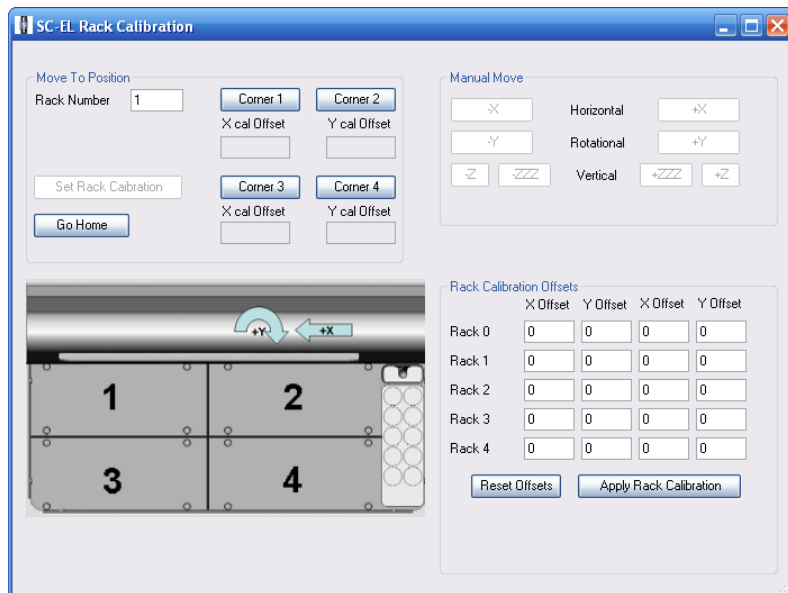
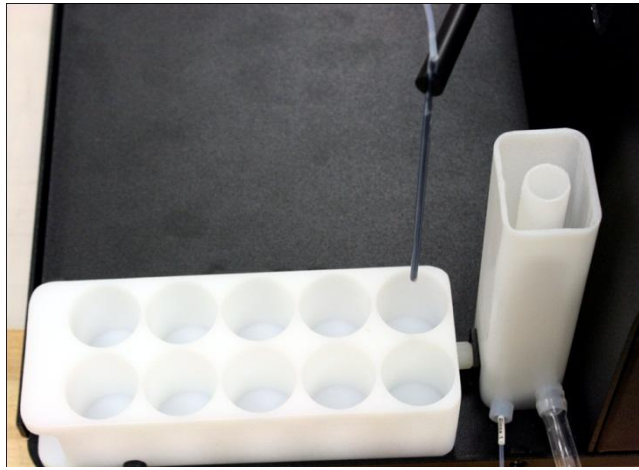

Figure 62: Calibrate Rack window.
Figure 63: Calibration at STD 1.
- 5) Identify location 1 of Standards Rack, and remove any vials. See Figure 63.
- 11) Click **Move to Rinse1**, to move the sample probe over the rinse station. Make adjustments using the horizontal (X) and rotational (Y) buttons, so that the probe is centered above the rinse station. Click **Set Rinse Offset**.
- 14) Next, go to **Calibrate>>Calibrate Rack** and enter the rack number of the rack to be calibrated. See Figure 62.
- 16) Jog (Z) if necessary to allow placement of rack under probe.
- 17) Jog using the horizontal (X) and rotational (Y) buttons, so that the probe is centered in the corner vial. Follow by clicking **Set Rack Calibration**.
- 19) Jog (Z) if necessary to allow placement of rack under probe.
- 20) Jog using the horizontal (X) and rotational (Y) buttons, so that the probe is centered in the corner vial. Follow by clicking **Set Rack Calibration**.